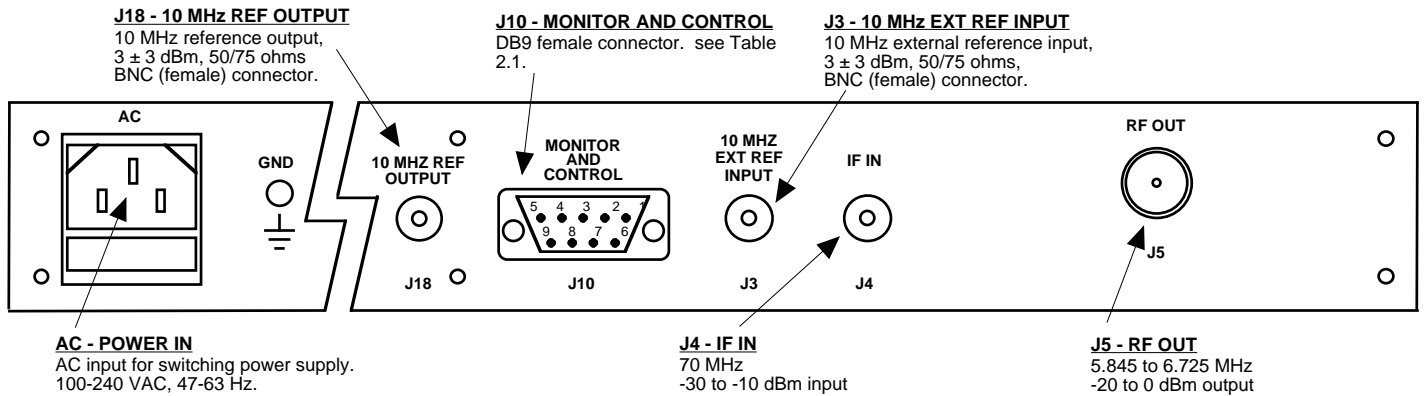

FIGURE 2.2 2015-57 Rear Panel Inputs and Outputs
2.2 Rear Panel Input / Output Signals - Figure 2.2 shows the input and output connectors on the rear panel.
1. Connect a -30 dBm to -10 dBm, 70 MHz signal to IF IN, J4 (Figure 2.2)
Alarm indications appear on the LEDs (see figure 2.2).